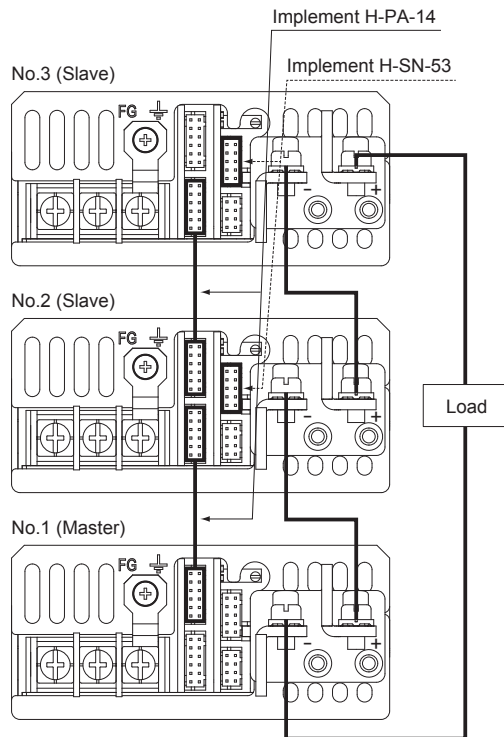

Fig.6.6 Connection method in series (PCA300F, PCA600F)
■ Wiring method with series operation is shown in Fig.6.6.